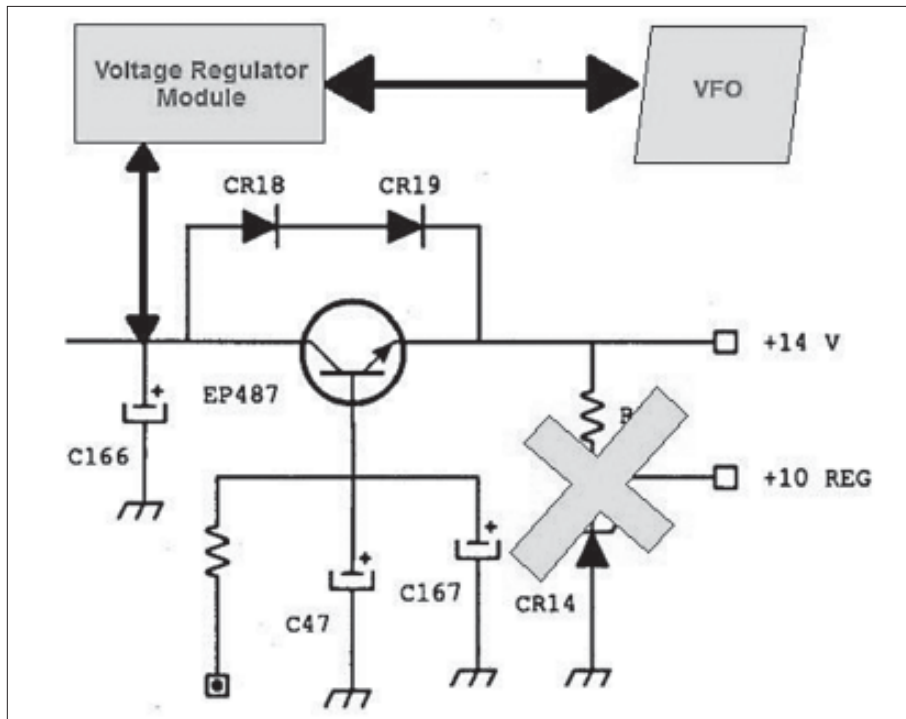

Figure 8: Wiring Diagram for Powering the Module
6. Locate the VFO + power wire (**figure 8**), located on the audio board, and rewire it to the new module (**figure 8**).